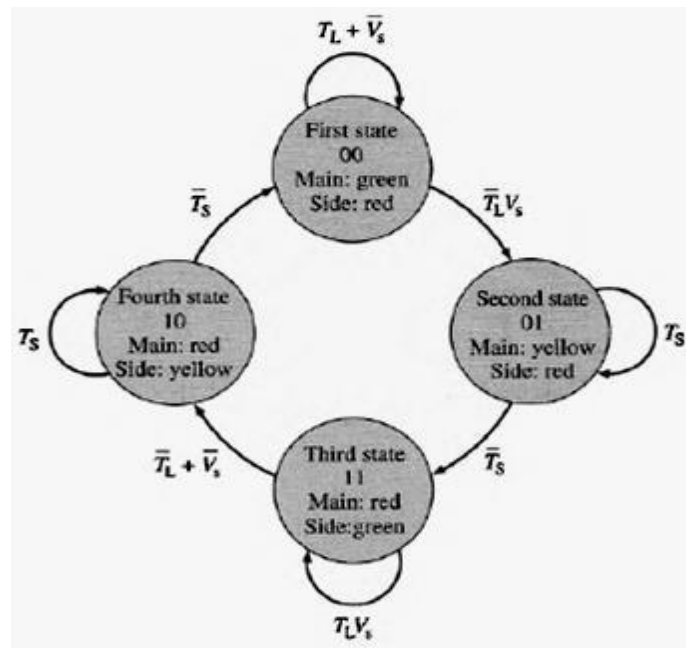

Figure 14.1
The use of complemented variables indicates the opposite conditions. A state diagram is repeated in Figure 14.1 for reference. Based on this state diagram, the sequential operation is described as follows:
- e. The state diagram (Figure 14.1) will guide you through the inputs required for the sequence in order to test the circuit. Start by opening the long timer and vehicle sensor switches (both HIGH). Place the counter in the first state (Gray code 00) by placing a momentary ground on the CLR inputs. In this condition, a vehicle is assumed to be on the side street (because V_s is HIGH) but the long timer has not finished the cycle on the main street. Close the long timer switch. This should immediately cause the circuit to go into the second state (Gray code 01), and the 4 s short timer should take over. While the 4 s timer is on, open the long timer switch again. The circuit should switch by itself (after 4 s) to the third state (Gray code 11).